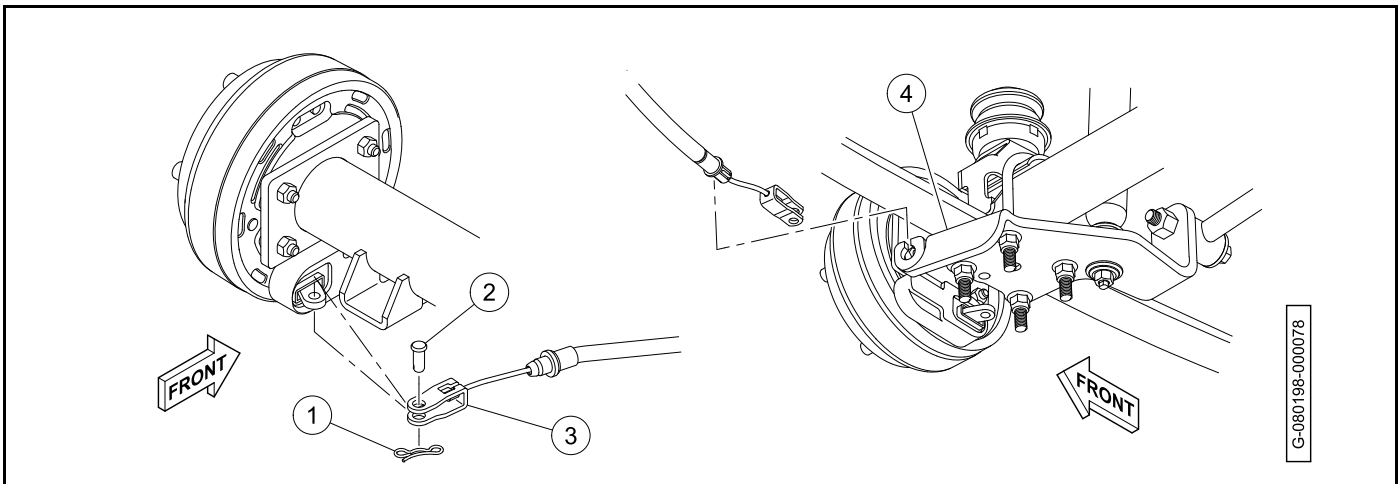

Figure 9-13
6. Remove the bow tie locking pin (1) and the clevis pin (2) (**Figure 9-13**).